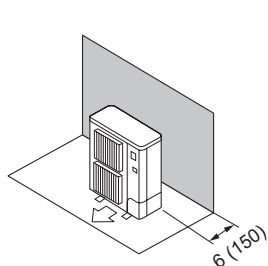

Fig. 2-5
- ① Obstacles at rear (Fig. 2-5)